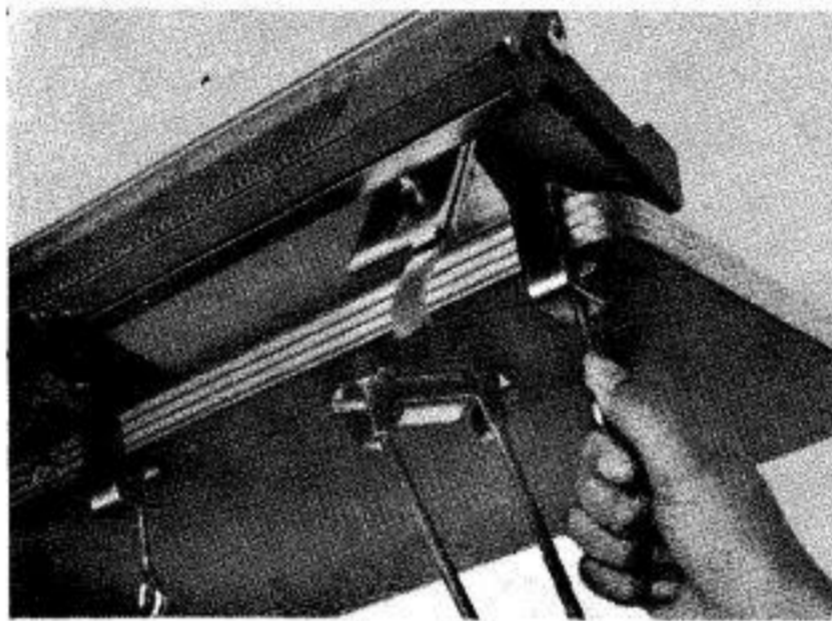

Fig. 14
6. Using the ribber stay clamps, clamp the ribber stays to the table edge. (Figs. 14 & 15)